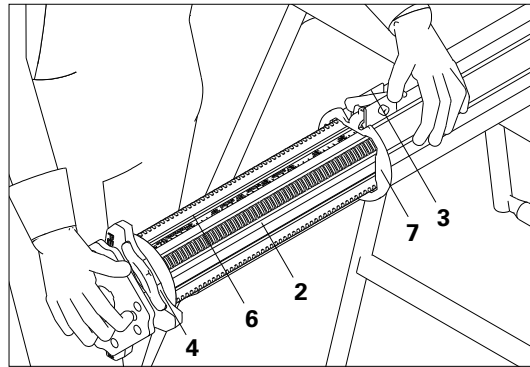

Fig. A1.02a
1. Press down safety hook (3).
- > Inner tube (2) together with the adjusting collar (4) is released.
- (Fig. A1.02a)
2. Pull out inner tube until the length indicated on the measuring tape (6) is slightly more than the required prop length.